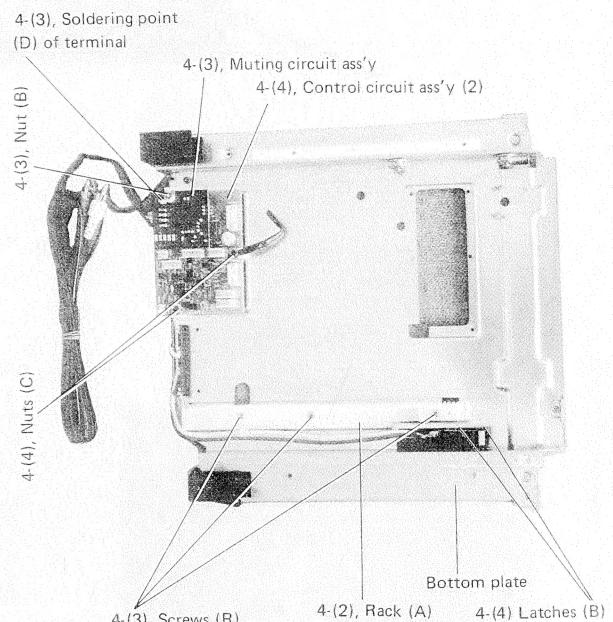

Fig. 11
4). Disassembly of bottom plate (See fig. 11)
- 4. Releasing latch (B) which holds micro switch, and then push the switch by a small stick or screw driver through square hole so that micro switch and lever can be removed. (See fig. 11)
- (3) Dismount muting circuit ass'y. (See fig. 11)
- Remove a nut (B) from PWB and then unsolder (D) so that muting circuit ass'y can be dismantled.
- (4) Dismount control circuit ass'y (2). (See fig. 11)
- Remove 2 pcs. of nuts (C) from PWB so that control circuit (2) can be dismantled.